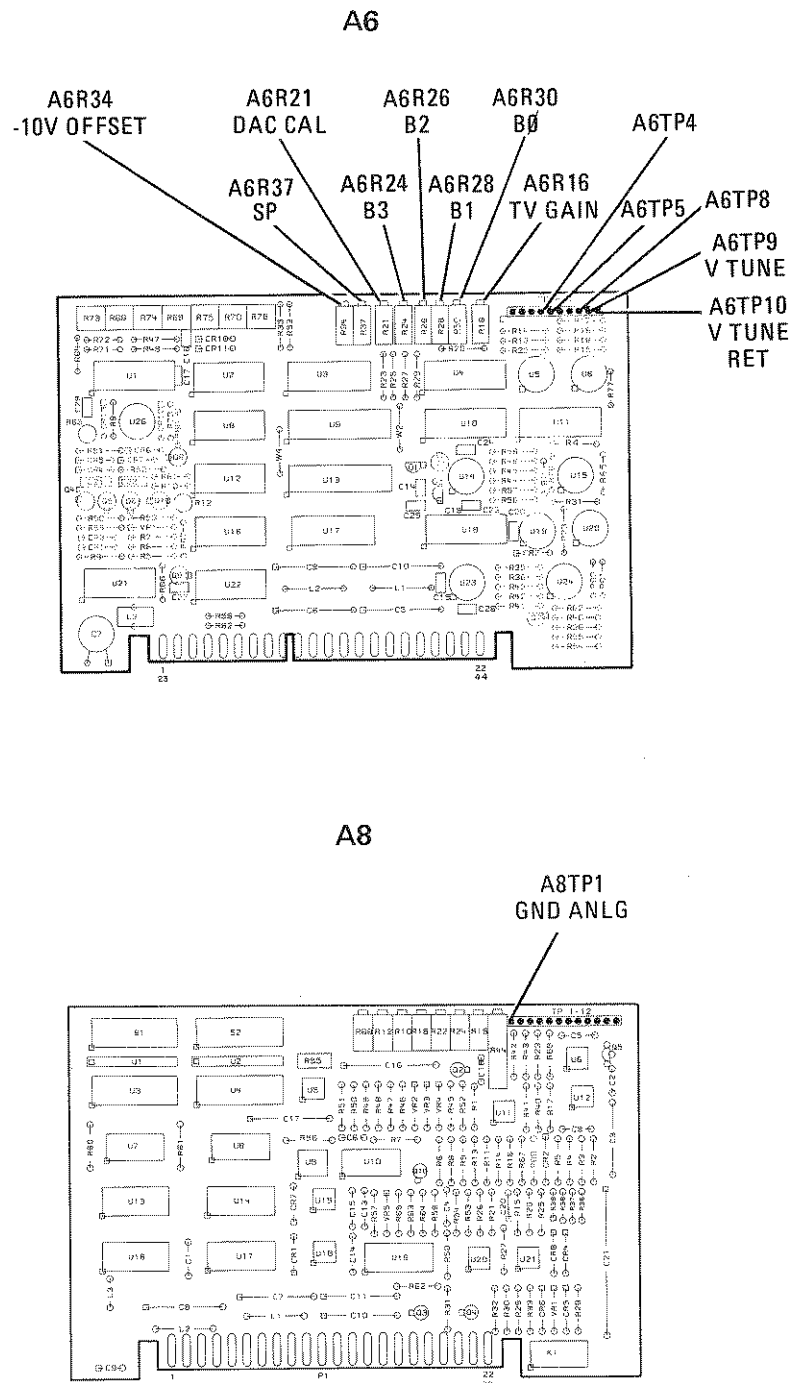

Figure 5-4. Sweep Control Adjustment Locations
5. Connect the DVM to A6TP5 and adjust A6R16 (TV GAIN) for a DVM reading of  $-10 \pm 0.001$  Vdc. Refer to Figure 5-4 for sweep control adjustment locations.